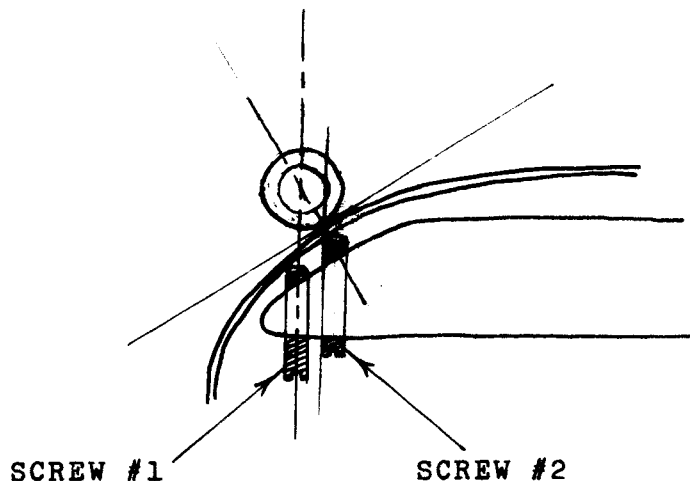

FIGURE 6
- 7.1.8.1 The axis of the first cam adjustment screw is to be aligned to the axis of the roller (reference figure 6).
- 7.1.8.2 The tangent point of the roller must be at the axis of the imaginary line of the second adjustment screws leading edge (reference figure 6).